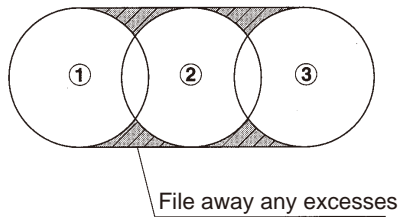

Fig. 29
Drill oblong hole in the order of ①, ②, ③. For the steps ② and ③, take care so that the cutter may not be fed into the workpiece with too much force. Spacing between each step of drilling operations should be so arranged that the Pilot Pin will always hit the material yet to be machined. (Fig.29)